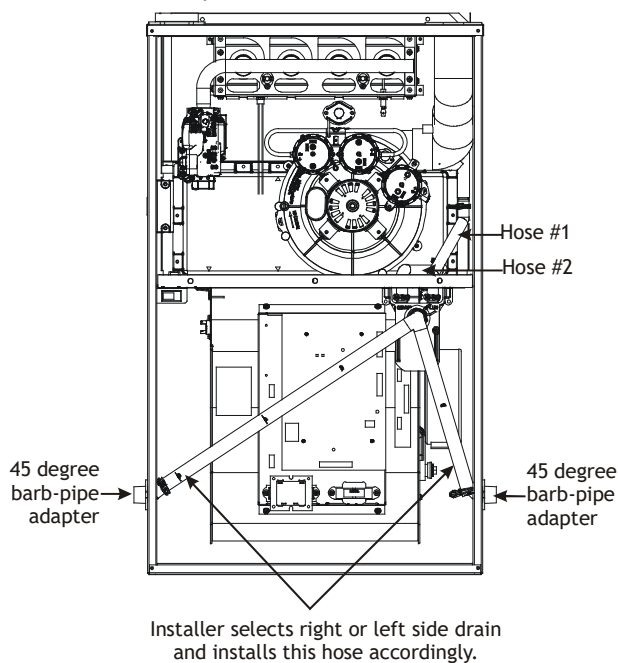

FIGURE 24
The trap and factory installed hoses remain as shipped. The furnace drain may exit either the right or left side of the furnace cabinet. Both sides of the cabinet have two .875" diameter holes which can be used interchangeably for drain and low voltage wiring purposes. If a higher drain exit is needed, a .875" diameter hole may be added in the area shown in Figure 24. Any unused cabinet opening must be sealed. Do not allow drain hose to sag or trap water.
1. Locate and Install the 45° pipe / hose drain coupling from the outside of the cabinet (barbed end goes in the cabinet) through hole in the right side of the cabinet and secure with two field supplied #8 self-tapping screws (see Figure 24).
1. Install the 45 degree pipe / hose drain coupling from the outside of the cabinet (barbed end goes in the cabinet) through the hole in the left side of the cabinet and secure with two field supplied #8 self-tapping screws (see Figure 24).